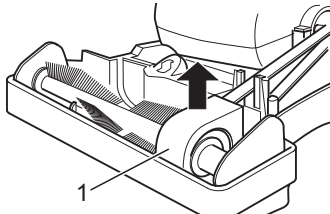

Fig. 29
8. Lift the V-belt cover (Fig. 29/1) up out of the brushing foot.
14. Put the V-belt cover (Fig. 29/1) back into the brushing foot.